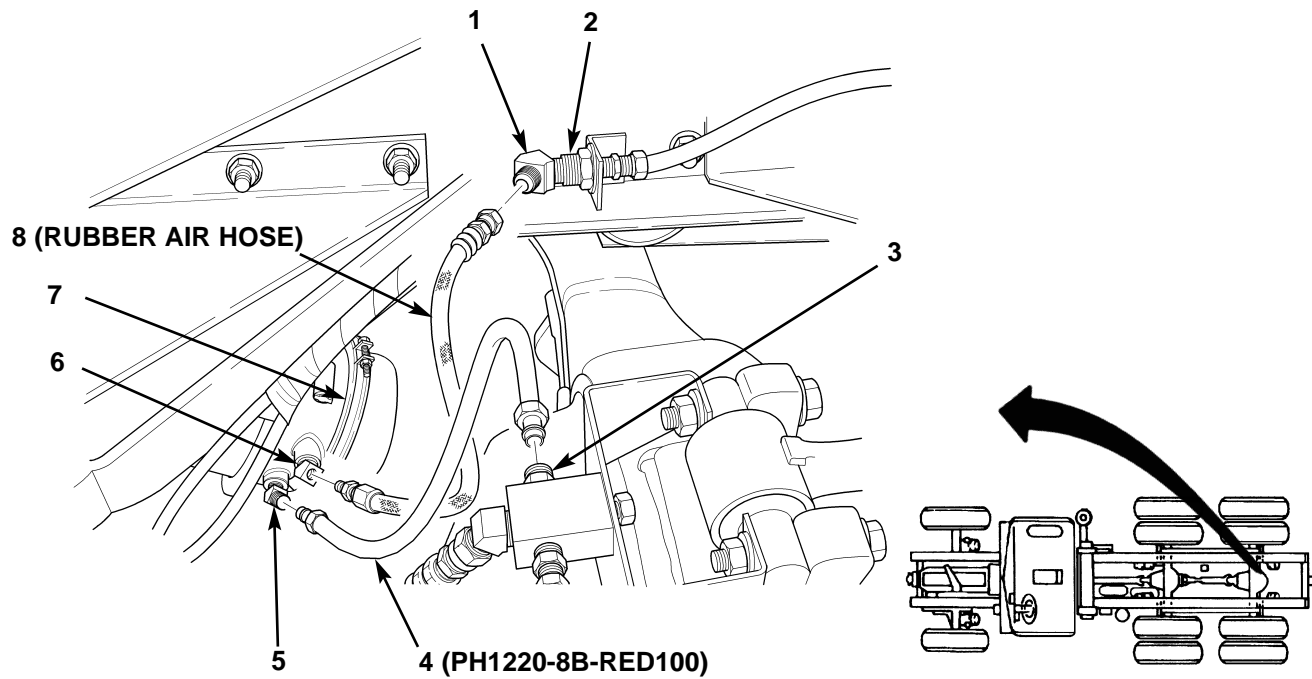

Figure 71. Installing Tube and Hose Assembly on Service Brake Chambers.
77. Measure and cut 9 in. (74 cm) new piece of 1/2 in. (13 mm) red bulk tubing (figure 71, item 4), and install tube (figure 71, item 4) on mountable tee adapter (figure 71, item 3) and elbow (figure 71, item 5) on parking brake port of spring brake chamber (figure 71, item 7) at left side of vehicle.
78. Install new hose assembly (figure 71, item 8) on elbow (figure 71, item 6) at service brake port of spring brake chamber (figure 71, item 7) and flared elbow (figure 71, item 1) at bulkhead (figure 71, item 2).
79. Repeat steps 77 and 78 for installation of opposite tube (figure 71, item 4) and hose assembly (figure 71, item 8) at right side of vehicle.